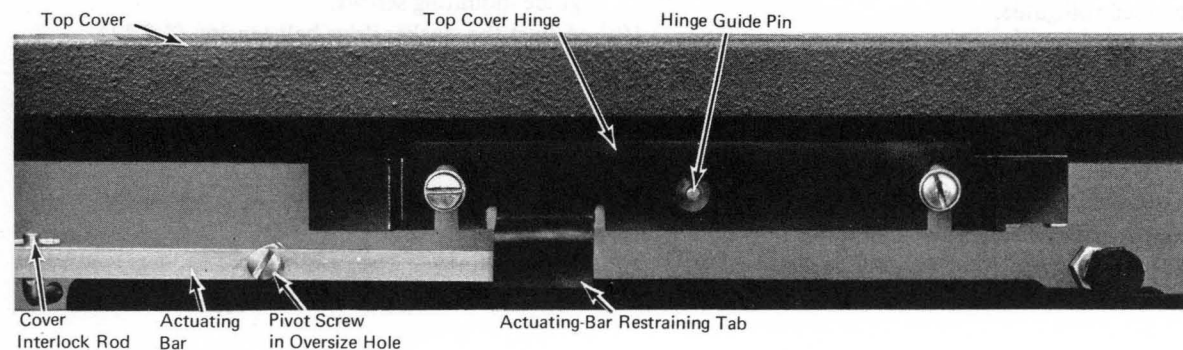

Figure 4-1. Top Cover Hinge
3. With the cover in the closed position, remove the four screws from the two rear top-cover hinges (Figure 4-1).